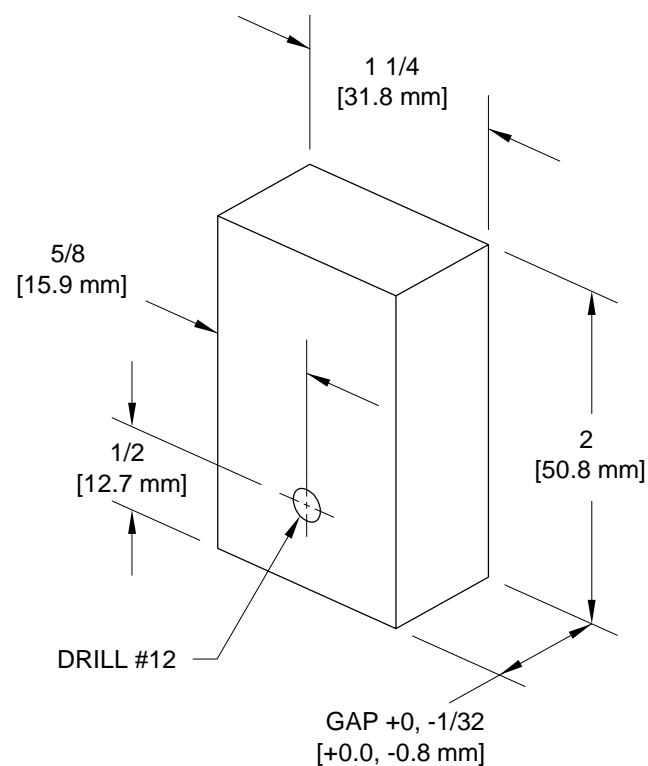

FIGURE 2: DRILL GUIDE BLOCK
Step 2: Make a Drill Guide Block from wood, plastic, or metal as shown in Figure 2.